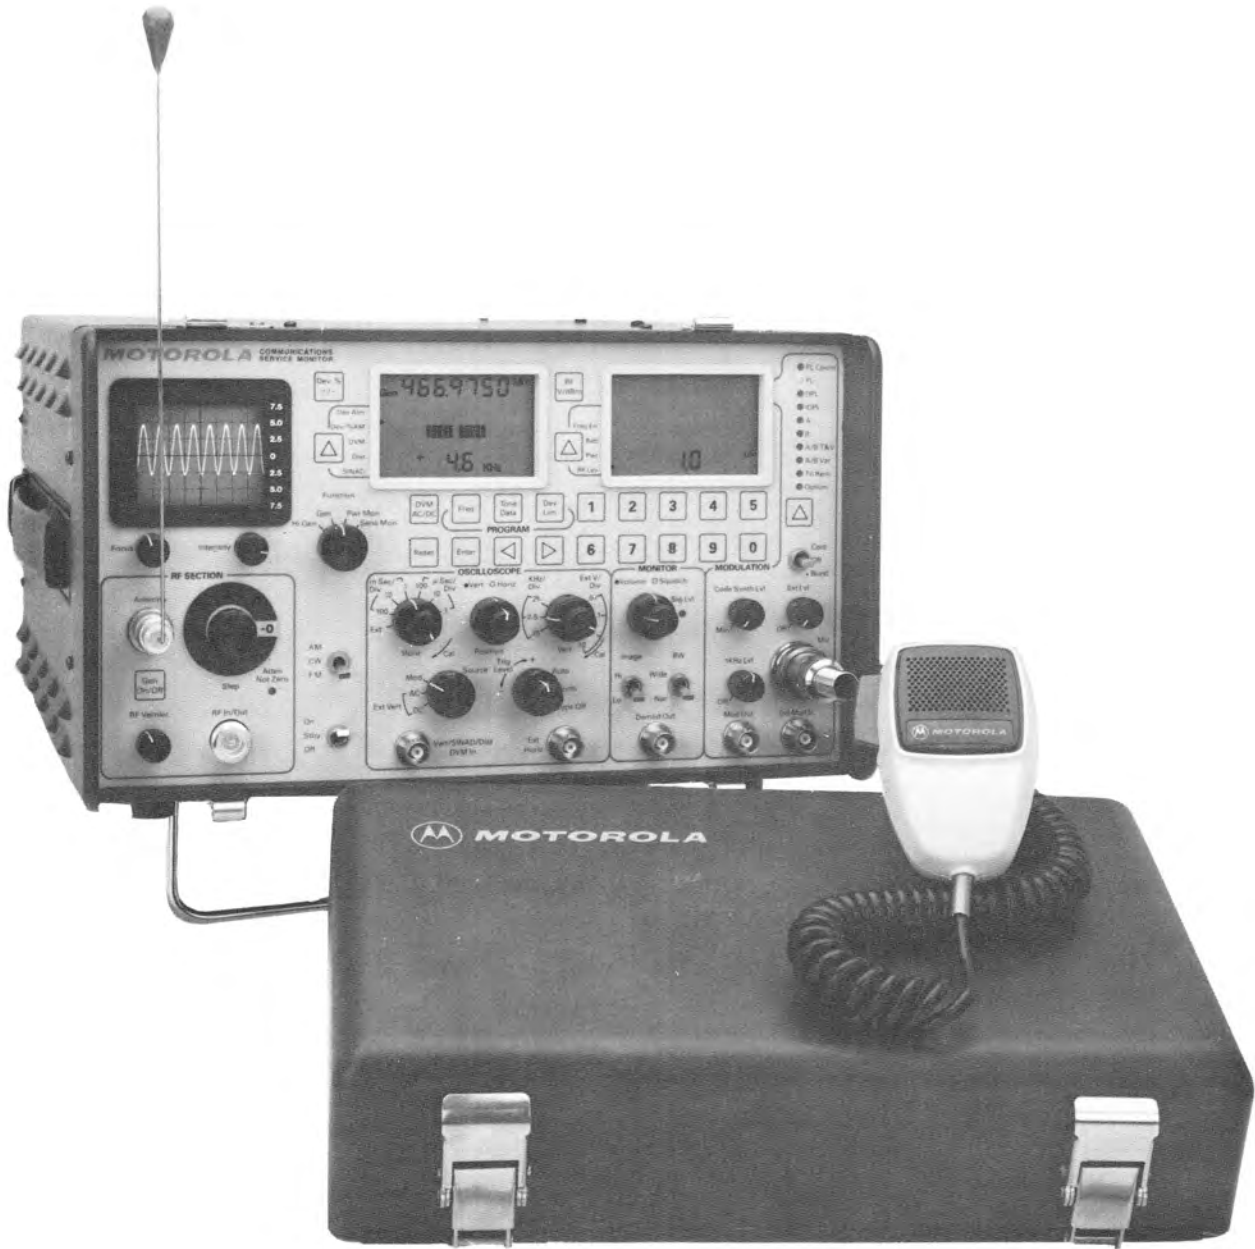

Figure 1-1. Communications Service Monitor
1.1.0 **GENERAL** This section lists the physical, electrical and input/output characteristics of the Communications Service Monitor shown in figure 1-1.